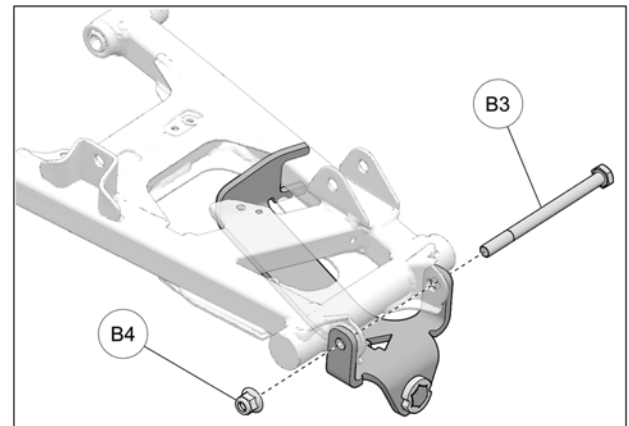

Fig. 9
8. Insert the new M10x140mm bolt (**B3**) through anchor bracket, suspension arm and wheel knuckle. Secure assembly with the provided M10 nut (**B4**). Torque nut to 50 N•m [37 lb•ft]. See Fig. 9